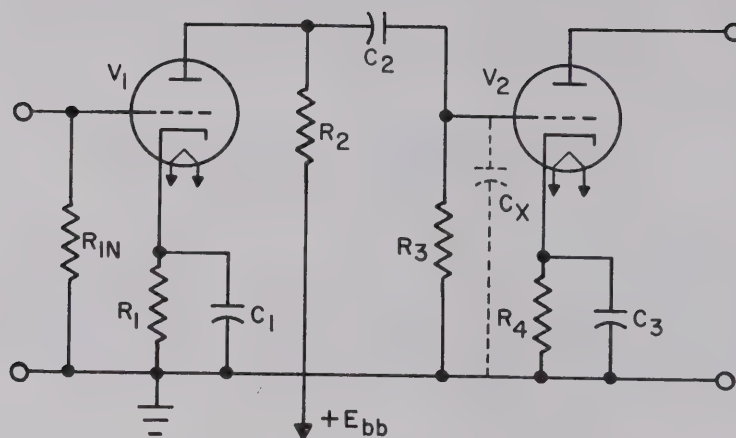

Figure 10
Figure 10 shows a **RESISTANCE COUPLING** arrangement, sometimes known as **RESISTANCE-CAPACITANCE (RC) COUPLING**. This coupling arrangement between the stages consists of resistor R_3 and capacitor C_2 .
sponse is due to the shunting effects of C_x , shown in Figure 10. C_x is composed of the effective input capacitance of V_2 , the plate-cathode capacitance of V_1 , and the various stray wiring capacitances.
In the circuit of Figure 11, inductor L_1 replaces resistor R_2 of Figure 10. Inductor L_1 , along with coupling capacitor C_2 and grid resistor R_2 , form what is known as an **IMPEDANCE-COUPLED** amplifier. The inductor is made of a large number of turns of wire wound on an iron core. Due to its self-inductance, the coil presents a high reactance to low-frequency variations of plate current, but has a fairly low resistance to direct current.